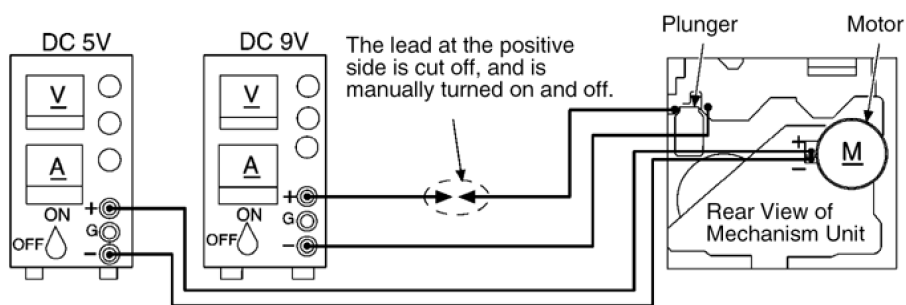

Fig. 5
2. Supply DC5V to MOTOR. (→ MOTOR rotates.) (Fig. 5)
4. Supply DC9V to the plunger, and turn the power ON and OFF. (→ Power +PL, -PL) (Fig. 5)